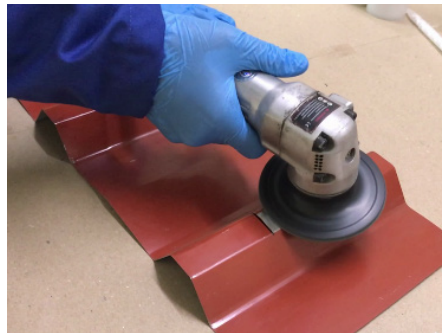

Figure 2. Grind application area only
2. Grind the application area marked on the roof using a hand scrubber, grinder or sander (see Figure 2).